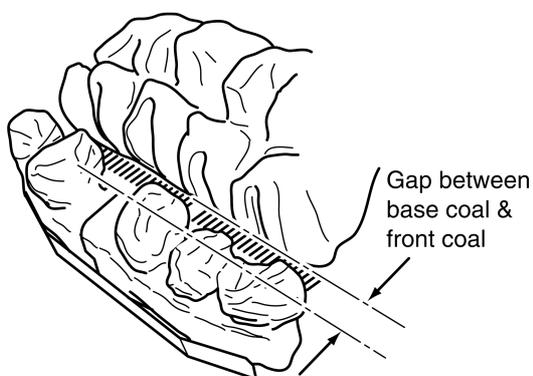

Figure 11. Front Coal Location
2. Place the left-hand ceramic front coal in position in front of the base coal (See figure 11).
3. Place the right hand ceramic front coal in position in front of the base coal. This should overlap the left-hand coal. Push the two sides together to minimise the gap. (See figure 11).
4. There will be a gap between the rear of the front coals and the front of the base coal. (See figure 11).